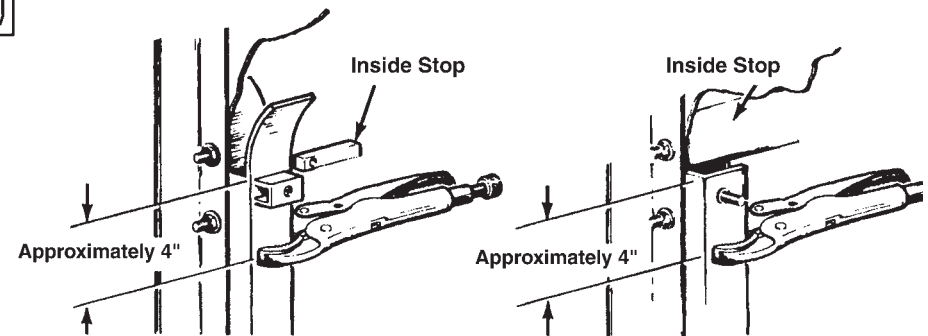

Figure 27
- Install Inside Stop on LH and RH guides as shown in Figures 27 and 28.
- If the door has flared guides: Slide stop into inside channel holder and secure with 3/8-16 x 1/2" round head screw and washer. Attach locking pliers approximately 4" below the top of channel holder on both LH and RH guides as shown in Figure 27.